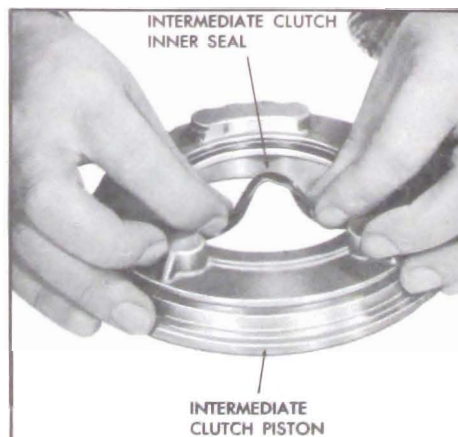

Figure 5-664
5. Remove the inner piston seal. See Figure 5-664.